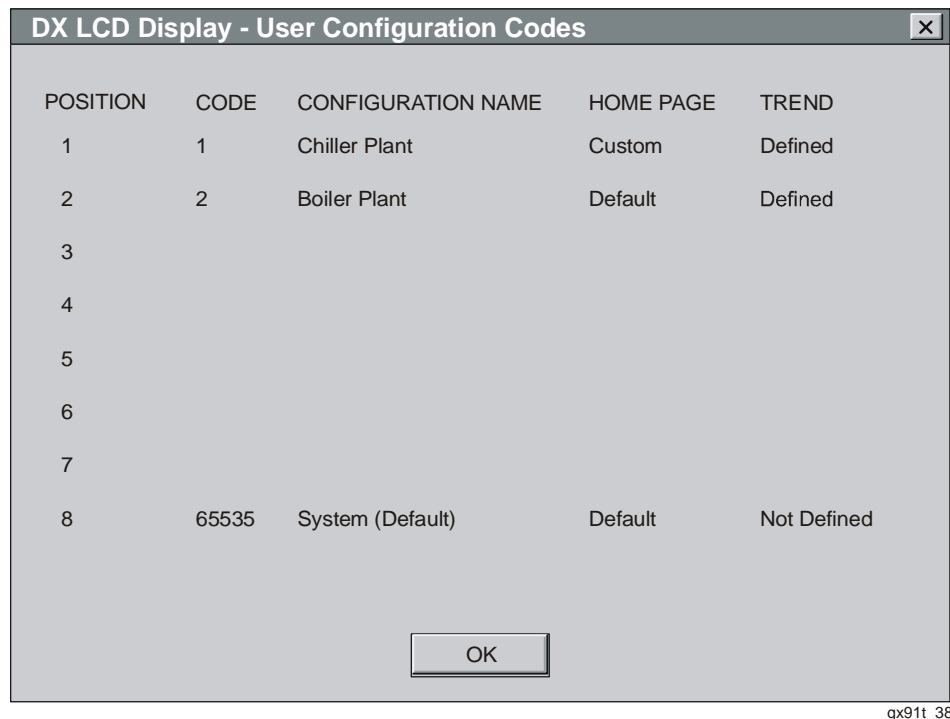

Figure 16-5: User Configuration Codes Dialog Box
1. On the DX LCD Display menu, click Read Configuration Codes. The DX LCD Display - User Configuration Codes dialog box appears (Figure 16-5).